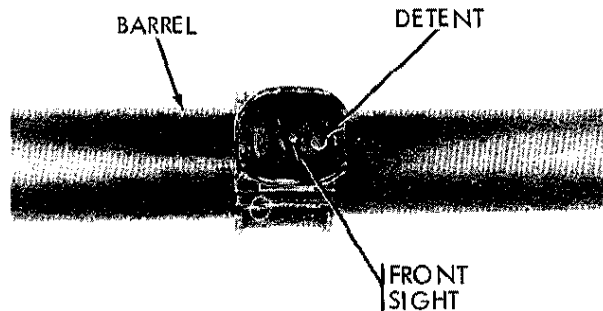

FIGURE 4. FRONT SIGHT
(3) Battle sight. The battle sight is located on the base of the sight and is used when the leaf rear sight is in the down position and corresponds to the operative sight set at a range of 200 meters.
g. Front Sight. The elevation adjustment for zeroing the weapon is in the front sight base (fig. 4), and adjustments are made by using the tip of a cartridge. To raise or lower the front sight post, depress the detent at the base of the front sight post and turn the post in the desired direction. To move the point of impact up, turn the sight post clockwise, in the direction of the arrow and the word "UP" stamped on the base.